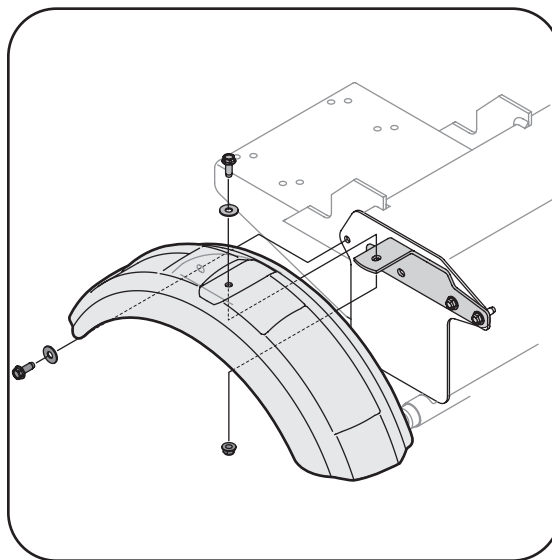

Figure 3-4
1. Remove the self tapping screw and flat washer from the tank and the self tapping screw, flat washer, and lock nut from the fender mount bracket. See Figure 3-4.
4. Insert self tapping screw through flat washer, the hole in side of fender, and into the hole in the tank it was removed from in Step 1. See Figure 3-4. Tighten securely.